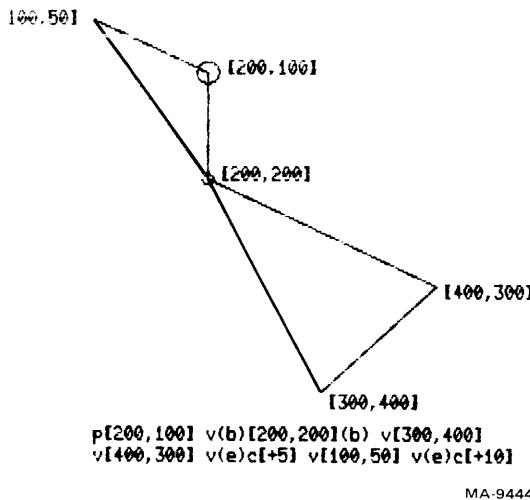

Figure 5-3 Nested (B) and (E) Commands
The (B) option saves the current position in the graphics processor's memory. This helps you draw a sequence of vectors that ends at the starting position. At the end of the sequence, the (E) option recalls the starting position. The vector command then draws a line from the last specified position to the saved position. The (B) option can save up to 10 positions in memory. Each (E) option recalls the position saved by the last (B) option and erases the position from memory. The positions stored and recalled include those stored with the position P(B) command. Figure 5-3 illustrates the action of the "nested" (B) and (E) options. (E) 2 recalls (B) 2; the next (E) is 1 which recalls (B) 1.
**V (B) [<position1>] (B) [<position2>] → (E) [<position2>] (E)